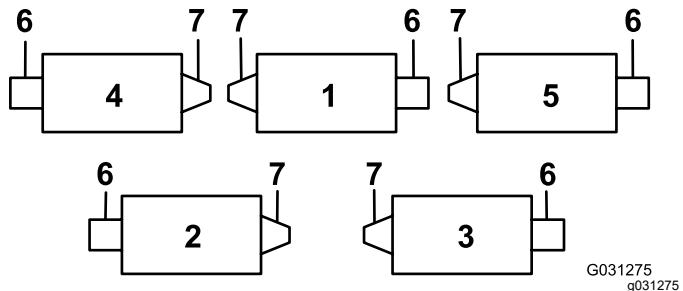
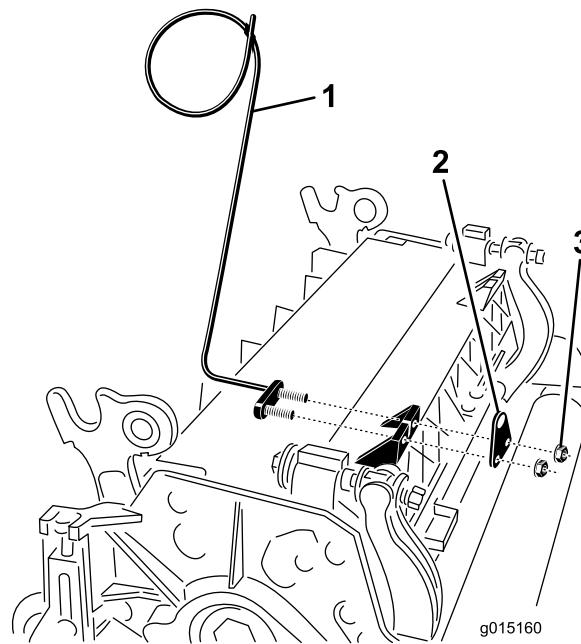
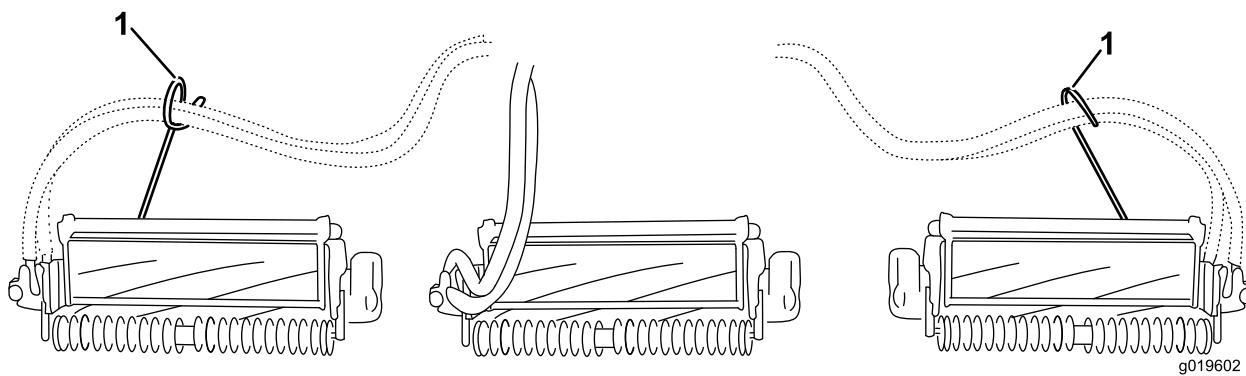

Figure 6
Figure 7
Figure 8
6. On cutting unit 4 (left front) and cutting unit 5 (right front), use the rod-bracket mounting nuts to install the hose guides to the front of the cutting-unit tabs. The hose guides should lean toward the center cutting unit (Figure 6, Figure 7, Figure 8).